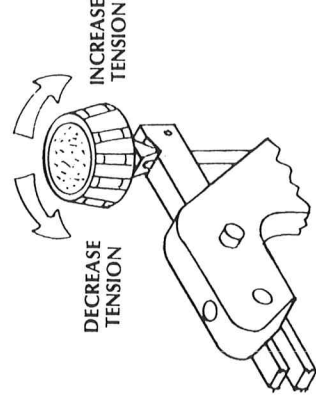

Fig. 6
Step 1: Release the blade tension by turning the tension adjustment knob (the big knob) counter clockwise, until there is no longer tension on the blade (see fig. 6).
To adjust the blade tension, turn the blade tension knob (the big knob on the back of the upper arm). To increase the tension turn the knob clockwise, to decrease the tension turn the knob counter clockwise (see fig. 6).
Step 1: Release the blade tension by turning the tension adjustment knob counter-clockwise (see fig. 6).